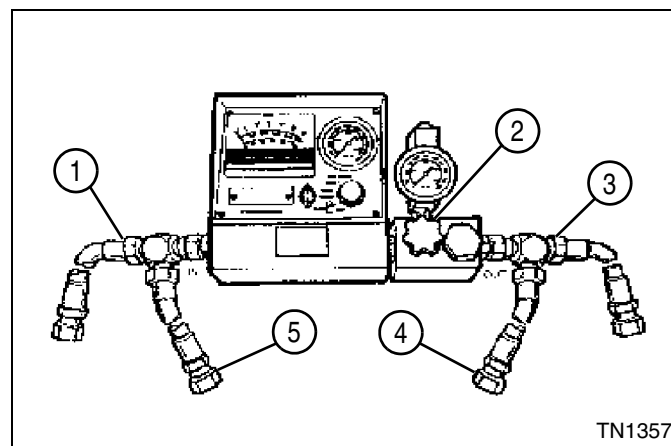

Figure 5-13
See Figures 5-13 and 5-14.
3. (See Figure 5-13.) Remove the blocking disks from locations (1) and (3).